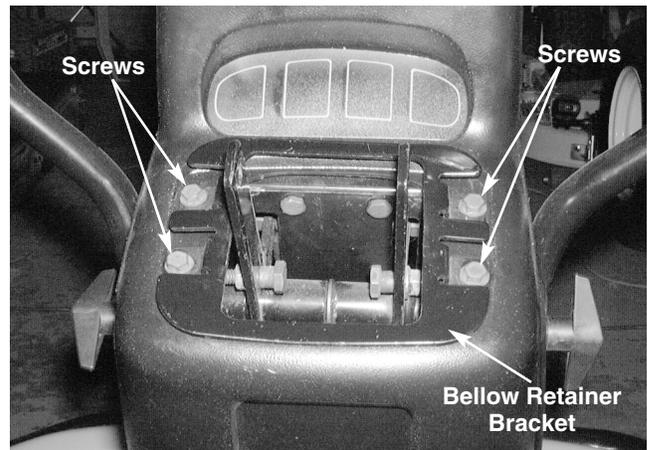

FIGURE 3.
7. Remove all four hex washer head screws securing the bellow retaining bracket to the top of the support tower using a 3/8 socket. See figure 3.